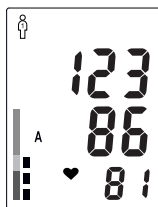

Fig.17
3. Press the M1 (or M2) Button to see the figures stored in the memory. At the first depression of button M1 (or M2) mean value of 3 last measurements, kept in memory M1 (or M2), will appear on the screen, marked by symbol «A» (fig. 17). At repeated depression of button M1 (or M2) indicator of selected memory M1 (или M2) and number of memory cell will appear on the screen, and in 1 second its content is displayed (fig. 18). When content of memory cell is displayed, date and time of measurement are displayed alternately in the display lower line. Each depression of button M1 (or M2) causes shifting to the next memory cell.